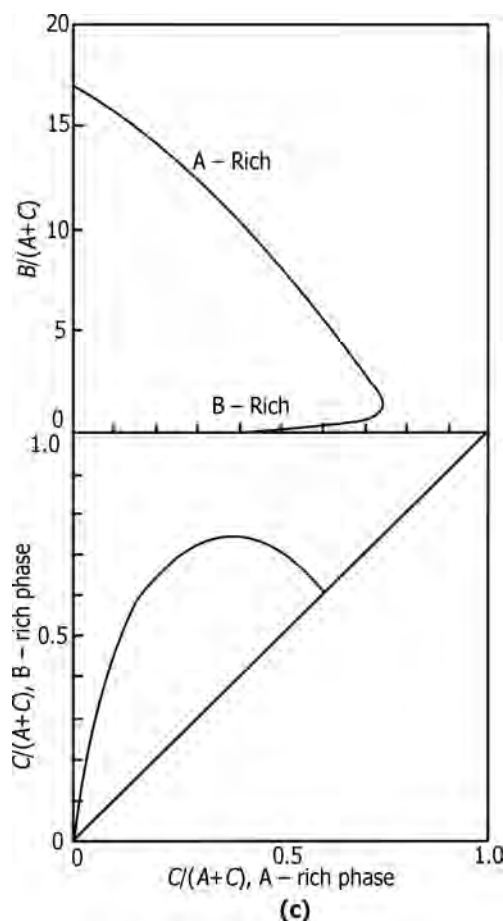

FIGURE 17.45 (Continued)
- 1-Hexene (A)–tetramethylene sulfone (B)–benzene (C) at 50°C.
- Acetone (A)–water (B)–methyl isobutyl ketone (C).
- Acetic acid (A)–water (B)–methyl isobutyl ketone (C).
- Figure 17.45 represents Type I equilibria for 1-hexene (A)–tetramethylene sulfone (B)–benzene (C).
FIGURE 17.45 Ternary equilibria for Type I system. 1-Hexene (A)–tetramethylene sulfone (B)–benzene (C) at 50°C. (a) Equilateral triangular plot, (b) right angular triangular plot, and (c) rectangular coordinate plot (Janecke Diagram, solvent-free coordinates).